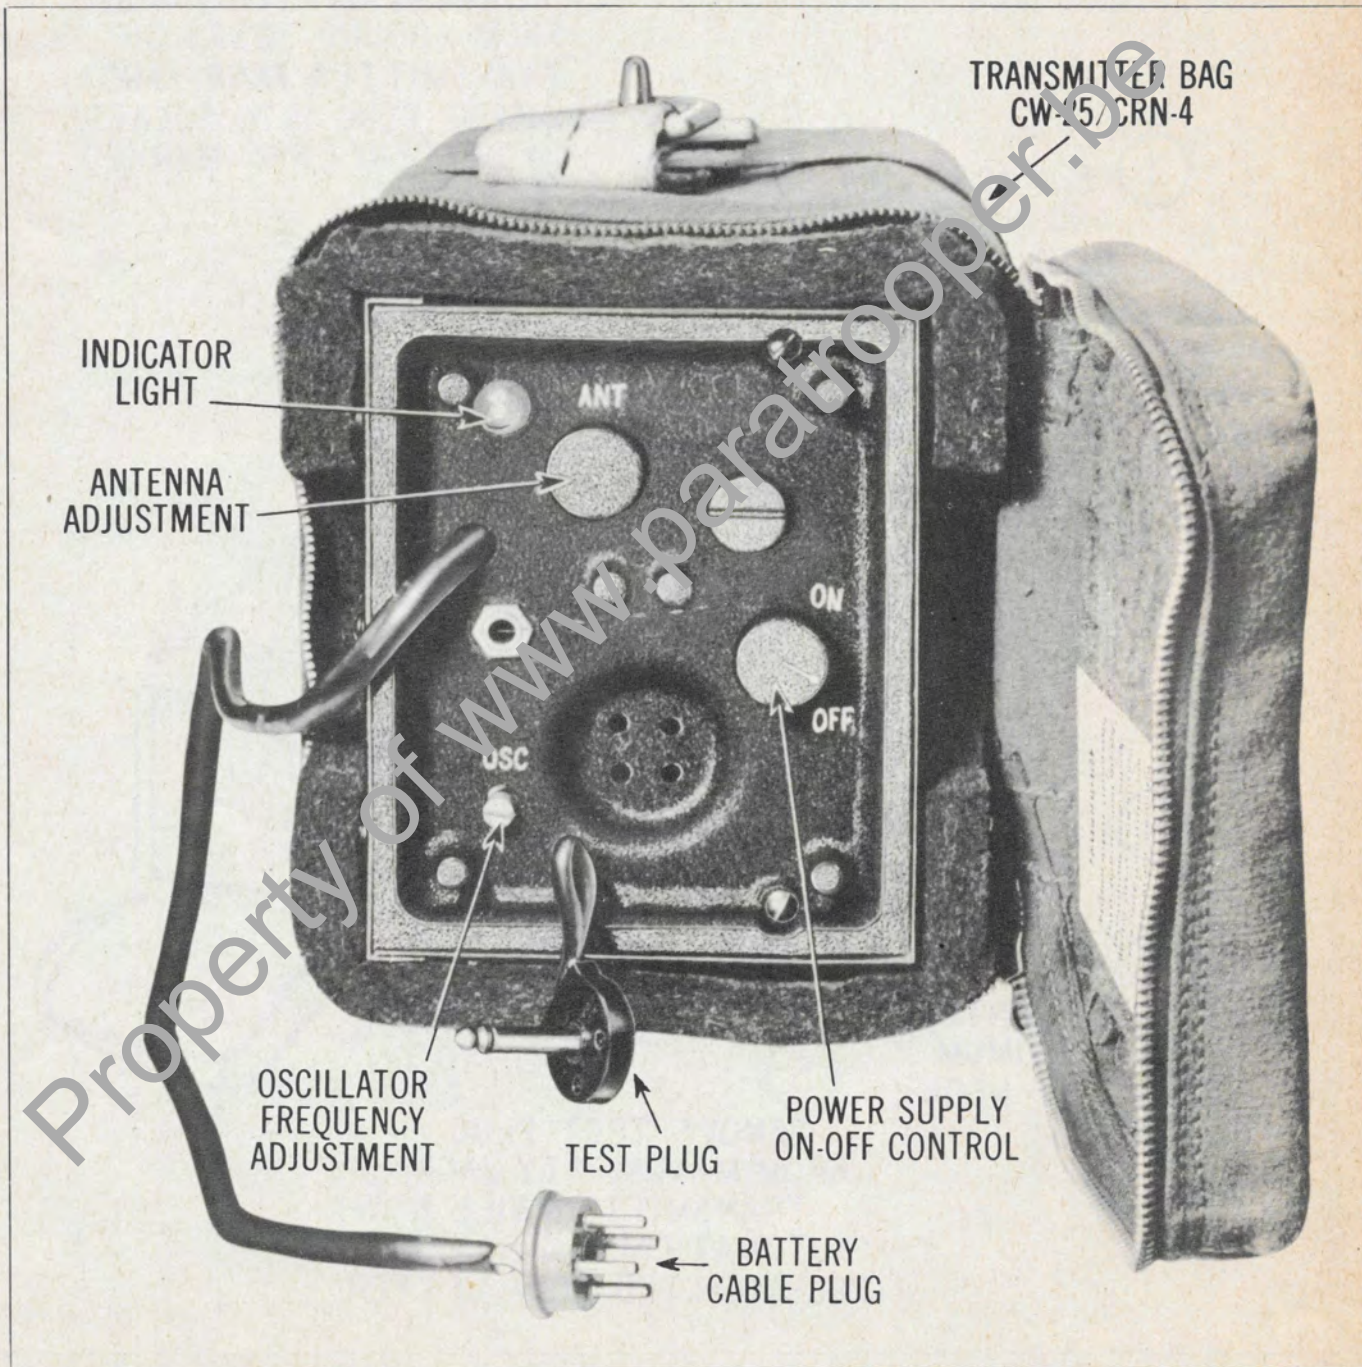

Figure 3-1. Radio Transmitter T-59/CRN-4—Panel View
a. To start the equipment, turn the "ON-OFF" switch to "ON." (See fig. 3-1 for location of controls.)